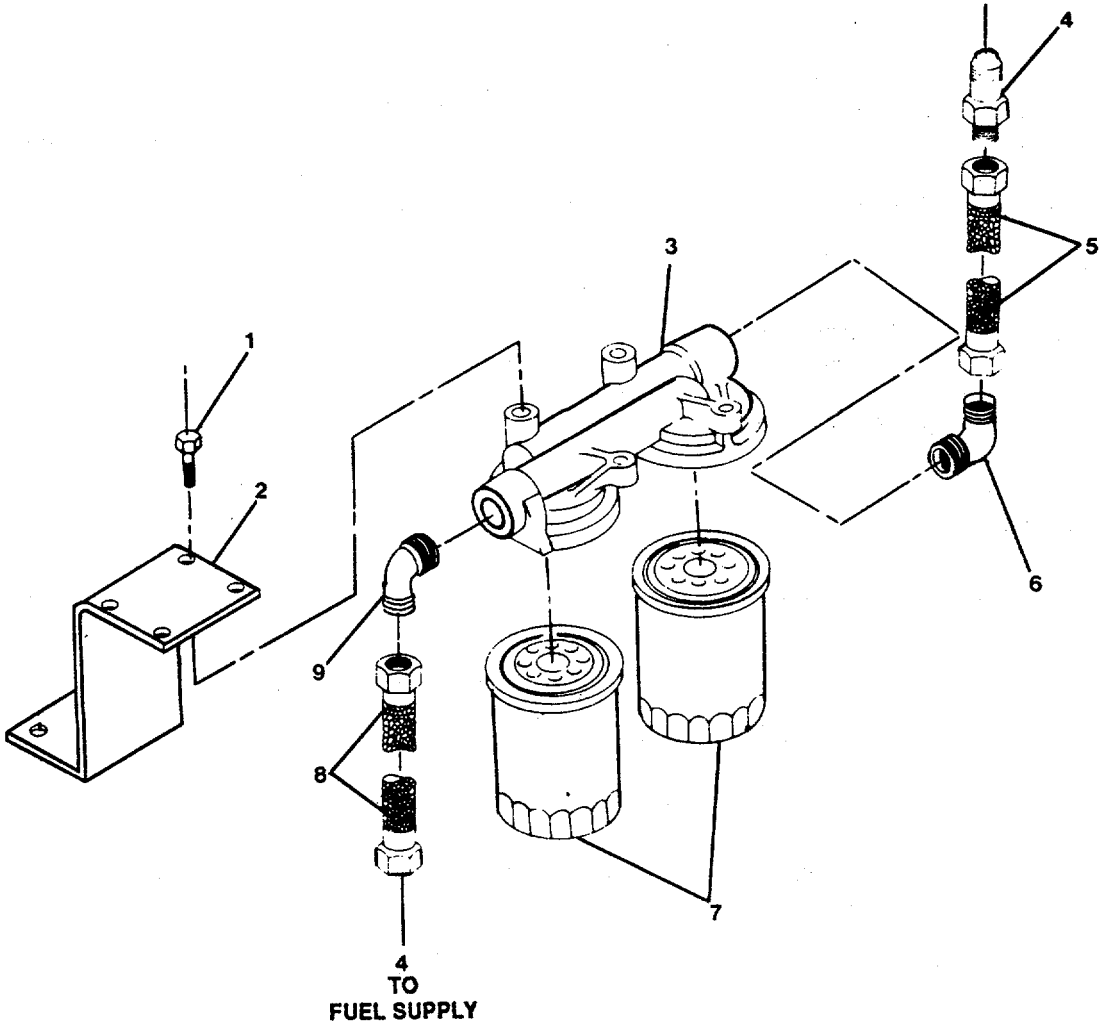

FIGURE 2-12. Fuel Filter Group.
**2-31. Replace/Repair Fuel Filter Group. (Figure 2-12)**